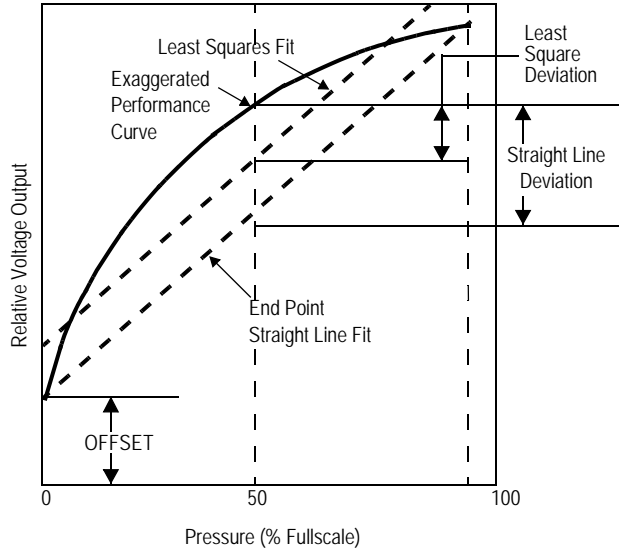

Figure 2. Linearity Specification Comparison
Linearity refers to how well a transducer's output follows the equation:  $V_{out} = V_{off} + \text{sensitivity} \times P$  over the operating pressure range. There are two basic methods for calculating nonlinearity: (1) end point straight line fit (see Figure 2) or (2) a least squares best line fit. While a least squares fit gives